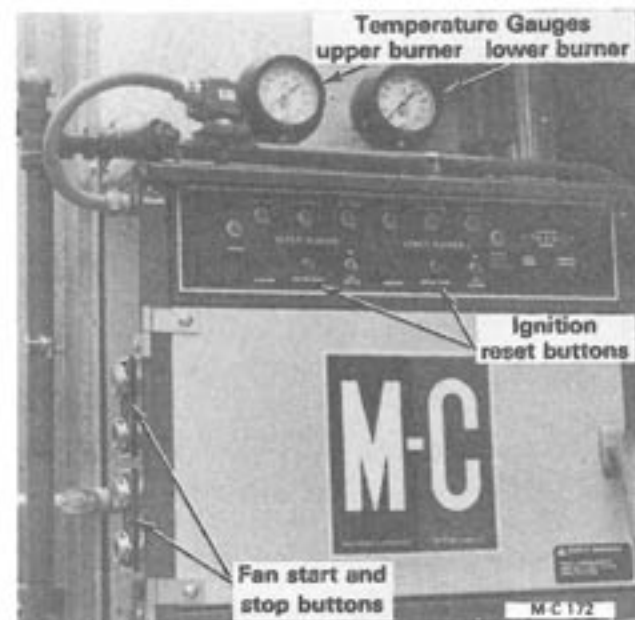
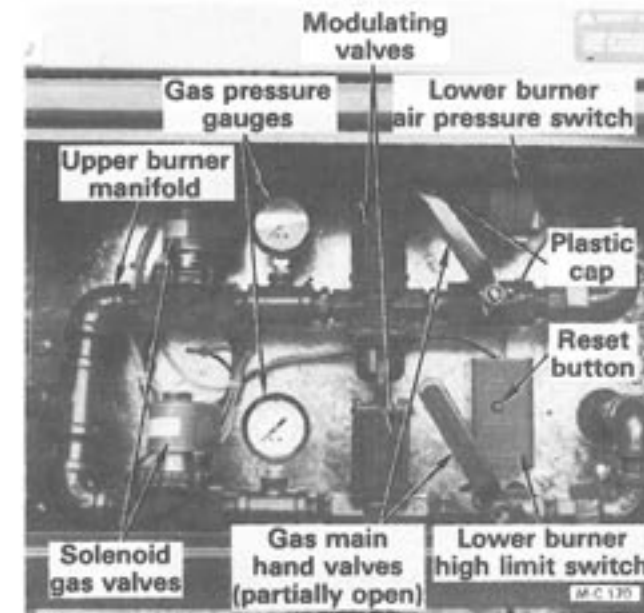
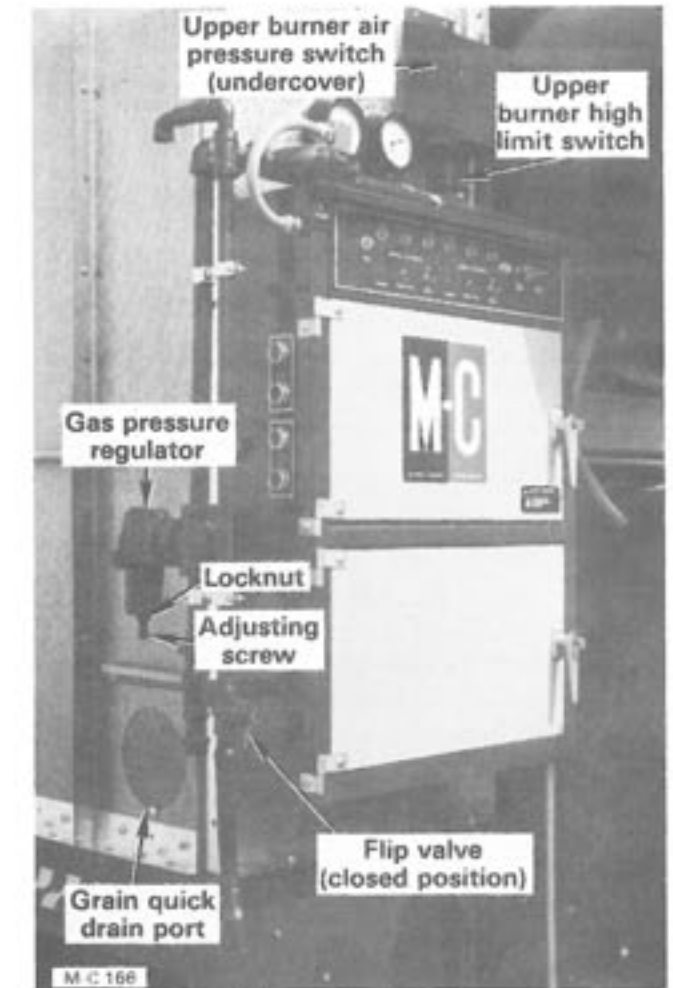

Figure 1
Figure 2 - LP Gas
Figure 4 - LP Gas
1. Flip all switches on the control panel to the **OFF** position, see Figure 1. Be sure that the gas main hand valves, Figure 2 and 3, are closed (handles 90° to the piping). Also, be sure that the modulating valves have not been turned all the way in to the wide open position. The handles should be half way between the closed and fully open position.
NOTE: If the "High Limit" light(s) are not on, push the reset button on the upper and lower burner high limit switches, see Figure 2, 3 and 4.
switch OFF. Push the reset button on the High Limit Switch to reset it, see Figure 2 and 3. Repeat steps 4 and 5, but open the gas main hand valve slower to prevent the temperature in the dryer from rising too fast.
- Adjust the modulating valve to obtain the desired temperature, see Figure 2 and 3. Turn the "T" handle in to increase temperature and out to decrease temperature.
dryer, see Figure 4. The flip valve is open when the handle is 90° to the piping.
- Remove the plastic cap on the end of the air pressure switch to expose the adjusting screw, see Figure 4 and 6.
- Flip the upper burner ignition switch **ON**. The "GAS VALVE" light will be on. Slowly open the upper burner gas main hand valve, Figure 2 and 3, ¼ of the way.
- If after several attempts for ignition there is still no flame, push the .01 (1/10th) amp. ignition reset button (circuit breaker) on the control panel, see Figure 1. This circuit breaker protects the ignition board from heat build up due to repeated ignition attempts.
- If the High Limit Switch trips out, close the gas main hand valve and flip the ignition switch **OFF**. Push the reset button on the High Limit Switch to reset it, see Figure 4. Repeat steps 4 and 5, but open the gas main
- LP Gas** - When the flame is established, the heat causes the LP gas to vaporize, and a steady controlled heat is possible within 2 to 3 minutes. When the burner is operating normally with the gas main hand valve fully open (handle parallel to the piping) check the reading on the gas pressure gauge, see Figure 2. Gas pressure should be approximately 8 to 10 pounds on dryers equipped with 8 unit burners and approximately 12 to 18 pounds on dryers equipped with ring burners. If it is not, adjust the gas pressure regulator as follows, see Figure 4.
- Flip the lower burner ignition switch **ON**. The "GAS VALVE" light will be on. Slowly open the lower burner gas main hand valve, Figure 2 and 3, ¼ of the way.